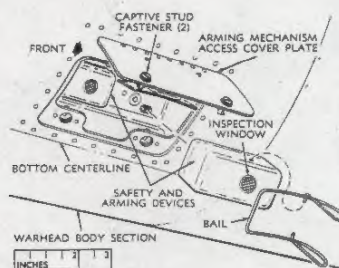

Figure 3-25. Safety and arming device (M30A1).
- (11) Remove the bails from the two safety and arming devices and check them for a safe (white) indication. Using the arming mechanism ohmmeter and portable barricade, perform the electrical test for noncontinuity (open circuit). Install the safety and arming devices in their receptacles at the forward bottom portion of the warhead body section (fig 3-25).